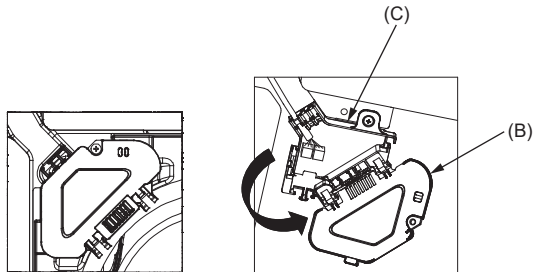

Fig. 7-9
- (3) Remove the one screw securing the connector box cover, and then open the cover. (Fig. 7-9)
- (4) Place the junction wire connector in the connector box.
- (5) Install the wire cover and connector box cover.